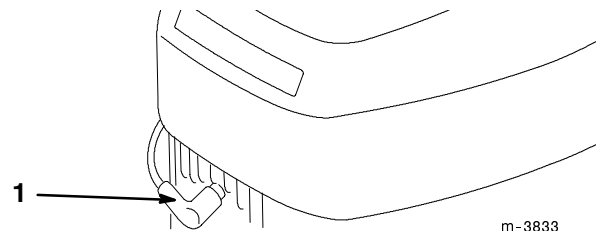

Figure 10
1. Ensure that the wire is connected to the spark plug (Fig. 10).